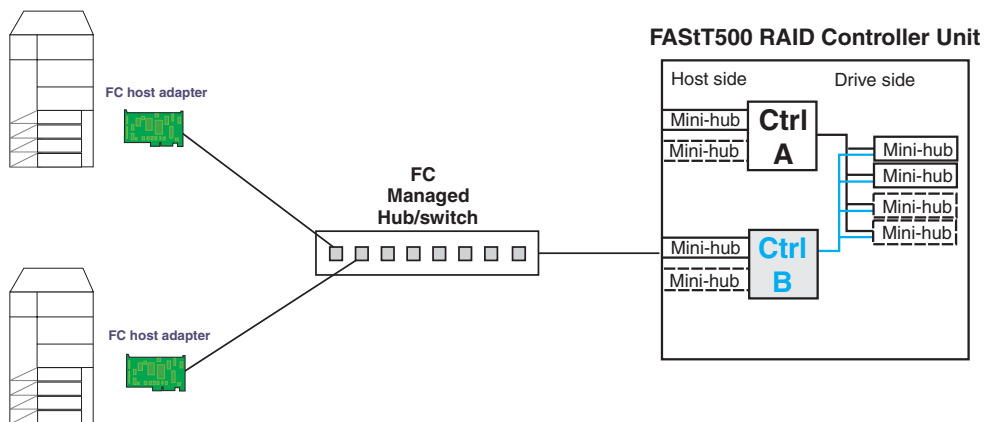

Figure 54. All I/O flowing through controller A
2. All I/O is flowing through controller A. This yields the diagram shown in Figure 54 for debugging.